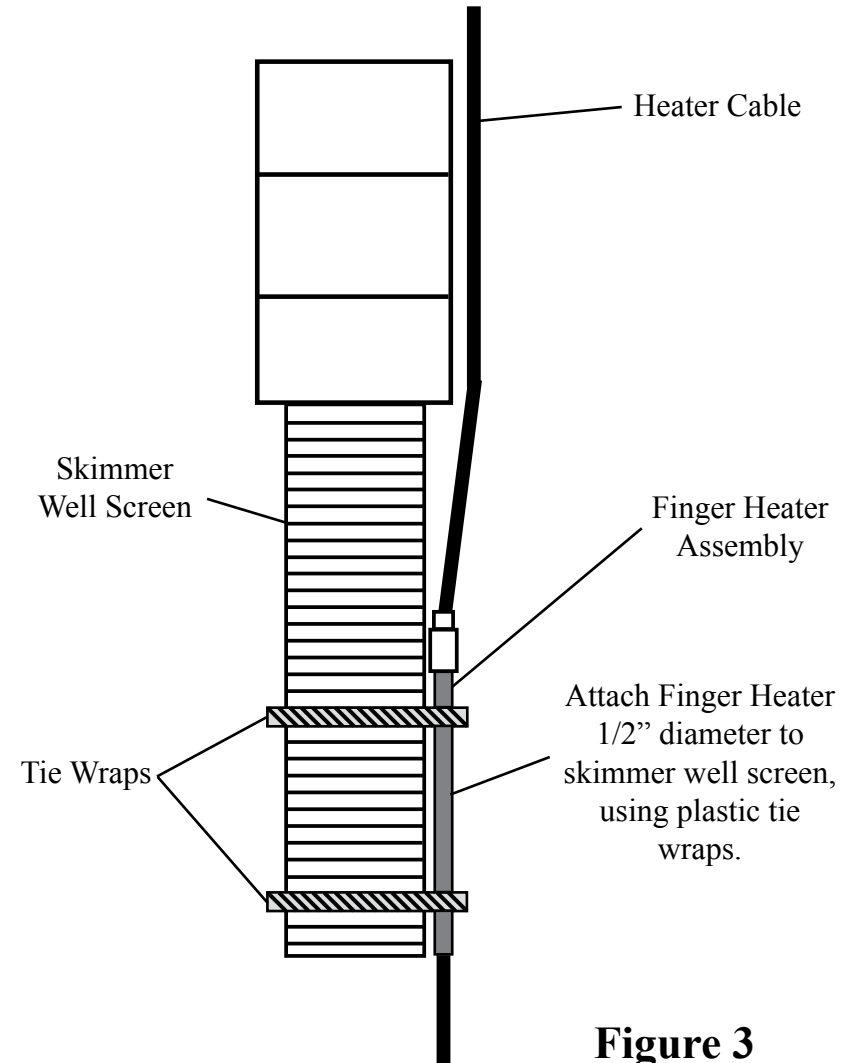

Figure 3
STEP 10. Install the 3/8” OD power cable from finger heater through the inside of the well cap, through the fitting labelled “H”. Slide about 5 feet of power cable through the well cap. Attach the finger heater assembly to the skimmer well screen (Figure 3).